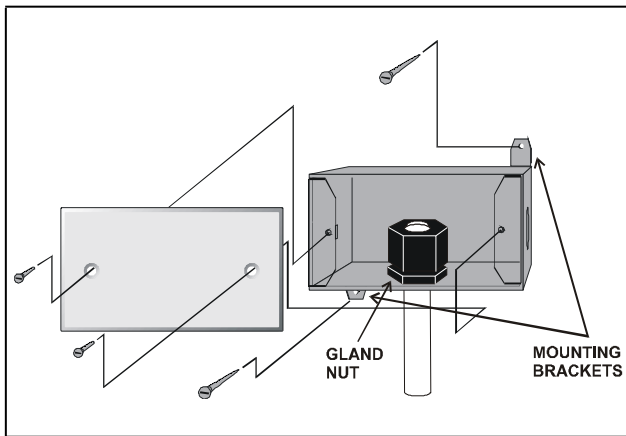

Figure 3-25 - Duct-mounted RH Sensor - Exploded View
2. Bolt the sensor enclosure against the outside of the duct wall so that the sensor element fits through the hole and into the duct. The enclosure may be mounted horizontally, as shown in **Figure 3-25** or vertically. The screws should be tight enough for the foam gasket around the bottom of the sensor to form an airtight seal between the hole in the duct wall and the outside air.